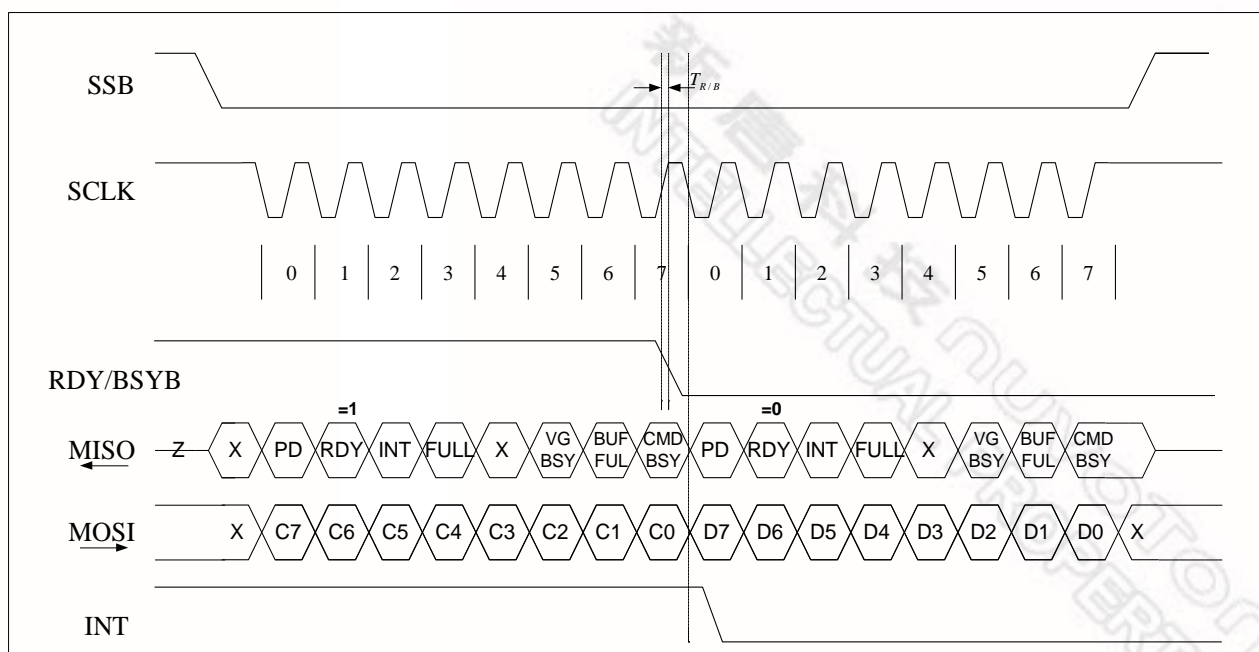

Figure 6-3 SPI Transaction Ignoring RDY/BSYB
The INT pin will go low to indicate (1) data overrun/overflow when sending data to the ISD3800; or (2) invalid data from ISD3800. See Figure 6-3 for the timing diagram.